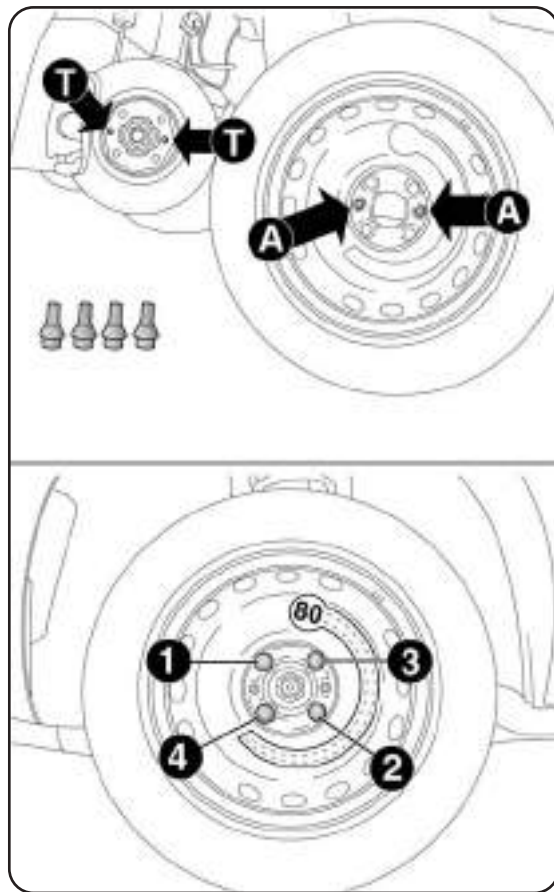

fig. 13
- fit the space-saver wheel, aligning pins T - fig. 13 with one of the holes A on the wheel;
- fully tighten the bolts, passing alternately from one bolt to the opposite one, following the order illustrated in fig. 13.